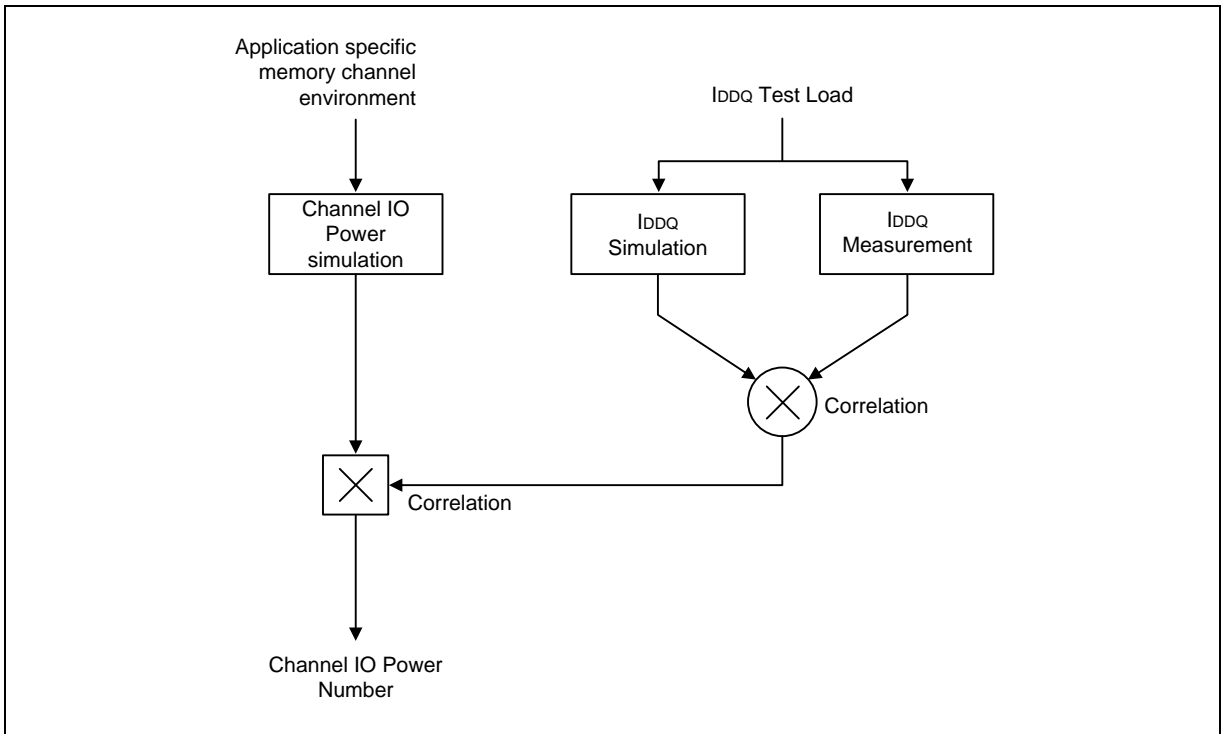

Figure 106 – Correlation from simulated Channel IO Power to actual Channel IO Power supported by IDDQ Measurement
**Attention: IDDQ values cannot be directly used to calculate IO power of the DDR3 SDRAM. They can be used to support correlation of simulated IO power to actual IO power as outlined in Figure 106. In DRAM module application, IDDQ cannot be measured separately since VDD and VDDQ are using one merged-power layer in Module PCB.**